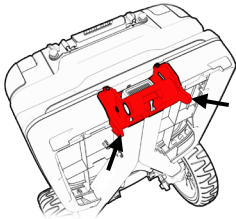

Figure 49
2. Bring the two parts together. Use the hanging hooks (see Figure 49) to locate the two ends properly. At this point the central release button will click.